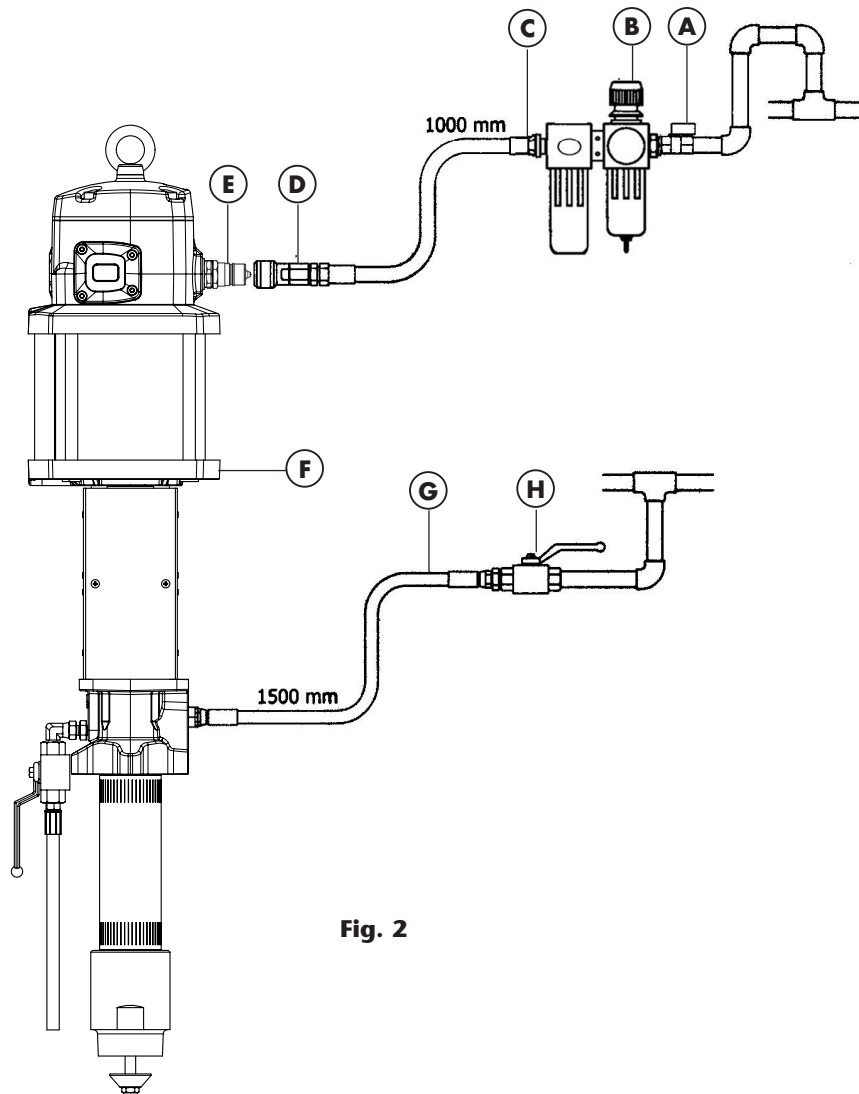

Fig. 2
Figure 2 is a typical installation shown with all the recommended accessories for the pump to operate correctly.
1. Open the bleed air valve (94). The pump can now expel any air trapped in (fig. 2).
3. Close the pump air bleed valve (94) as soon as the material trapped air is pumped out of the valve.